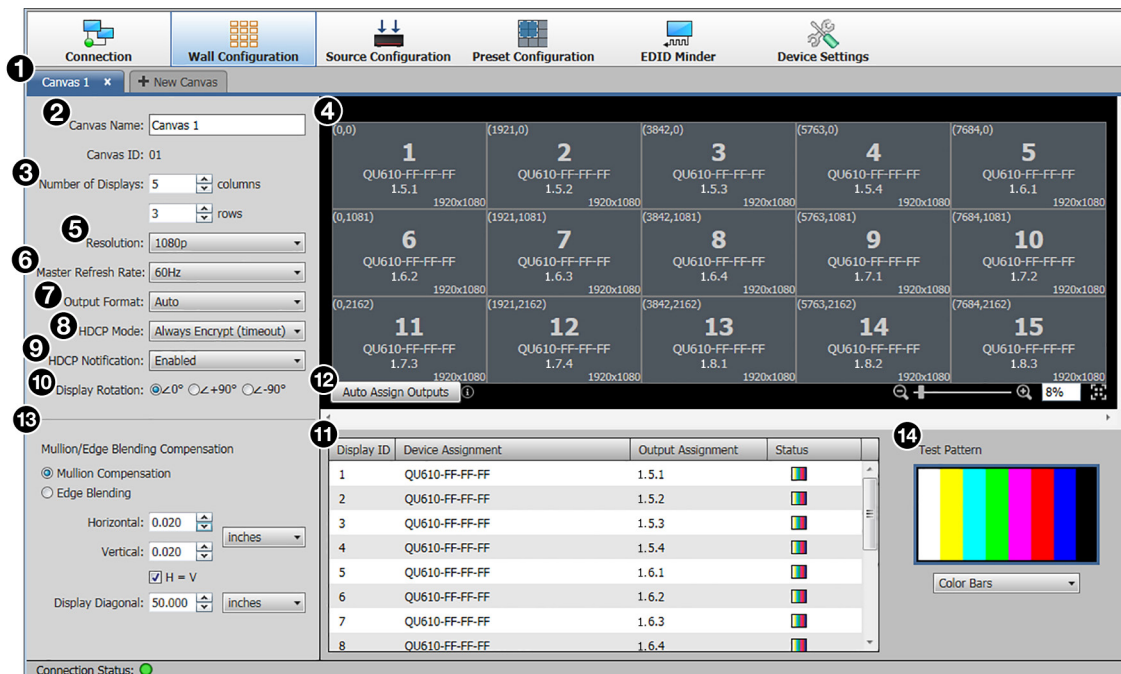

Figure 9. Wall Configuration Window
Click the **Wall Configuration** button (shown at right) to configure the outputs and to select the output channels on the Quantum Ultra Series device for the videowall. The Wall Configuration window opens, providing a Canvas to set up the wall (see figure 9).
1. **Name the Canvas.** By default, the first videowall configuration (Canvas) you define is named Canvas 1 (see figure 9, ①). In the **Canvas Name** field, you can customize the name if desired (②). Each Canvas that is created (a maximum of 10) is assigned an incremented number that appears in the Canvas ID field and is used in SIS commands.
- **Resolution** (see figure 9, ⑤) — From this drop-down list, select the output resolution for the displays.
- **Master Refresh Rate** (⑥) — From this drop-down list, select the refresh rate for the displays.
- **Output format** (see figure 9, 7 on the previous page) — From this drop-down list, select the output format (AUTO, DVI RGB 444 or HDMI RGB 444). The default is Auto.